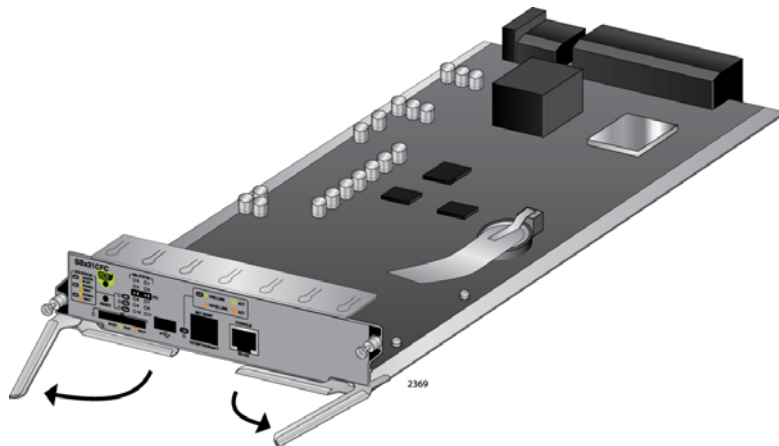

Figure 71. Opening the Locking Handles on the AT-SBx31CFC Central Fabric Controller Card
3. Move the locking handles on the front panel to the open position, as shown in Figure 71.